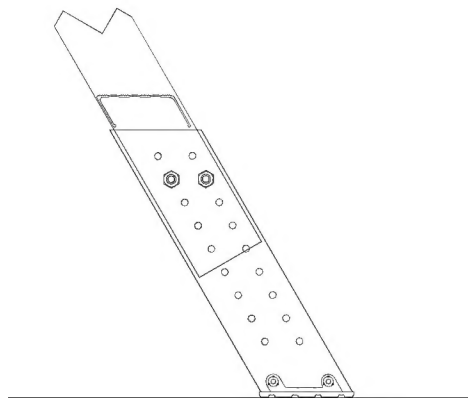

Figure 12
17. Using a $\frac{1}{4}$ " drill bit and using the adjustable shoe as a template drill the two holes that are the most centered in the overlap with the adjustable shoe and the side rail. Make sure there are no gaps between any two sections (See Figure 12).
18. Attach the adjustable shoes using (2) $\frac{1}{4}$ " bolts, washers and locknuts per side.